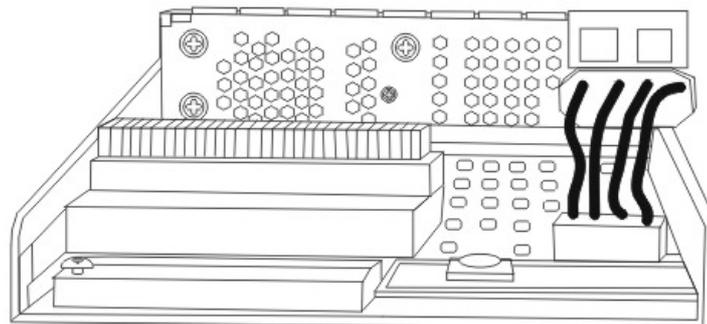

Figure 2-14: Installed SATA-to-PATA MUX Kit
Step 5. Insert the three (3) available retention screws. These screws are inserted from the bottom of the drive tray. They will firmly secure the MUX kit to the drive tray and facilitate the installation of the appropriate drive.
Step 6. Installed SATA-to-PATA MUX kit. Once installed, the MUX kit will appear as shown in *Figure 2-14*.